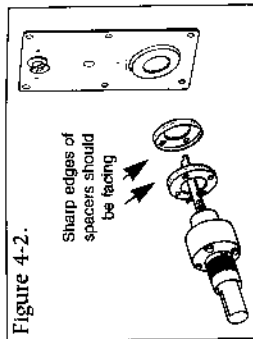

Figure 4-2.
3. Insert the extra spacer provided in the accessory pack (item "F" on the checklist) between the cylindrical drive unit and the back plate. Be sure that the sharp edges are facing each other (see Figure 4-2).